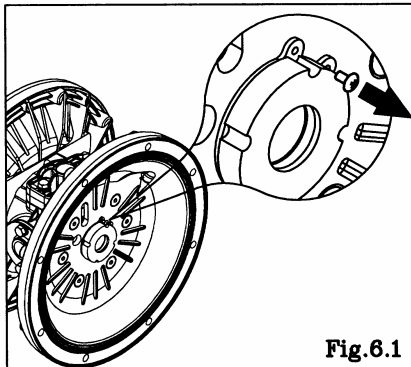

Fig.6.1
- Unscrew the tapping screws with a Phillips-head screw driver. [Fig.6.1]
- Remove the throat bearing using a special tool (804129). [Fig.6.1]